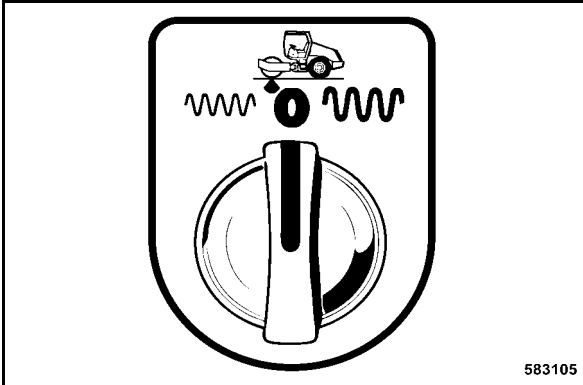

Fig. 48
- Switch the rotary switch for vibration amplitude pre-selection (Fig. 48) to position "0".